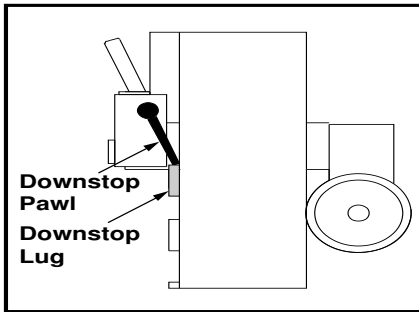

Fig. 8: Downstop pawl and lug identification
2. Visually confirm that the downstop pawls are securely engaged on the downstop lugs of each lift and the raised axle is level (see Fig. 8).